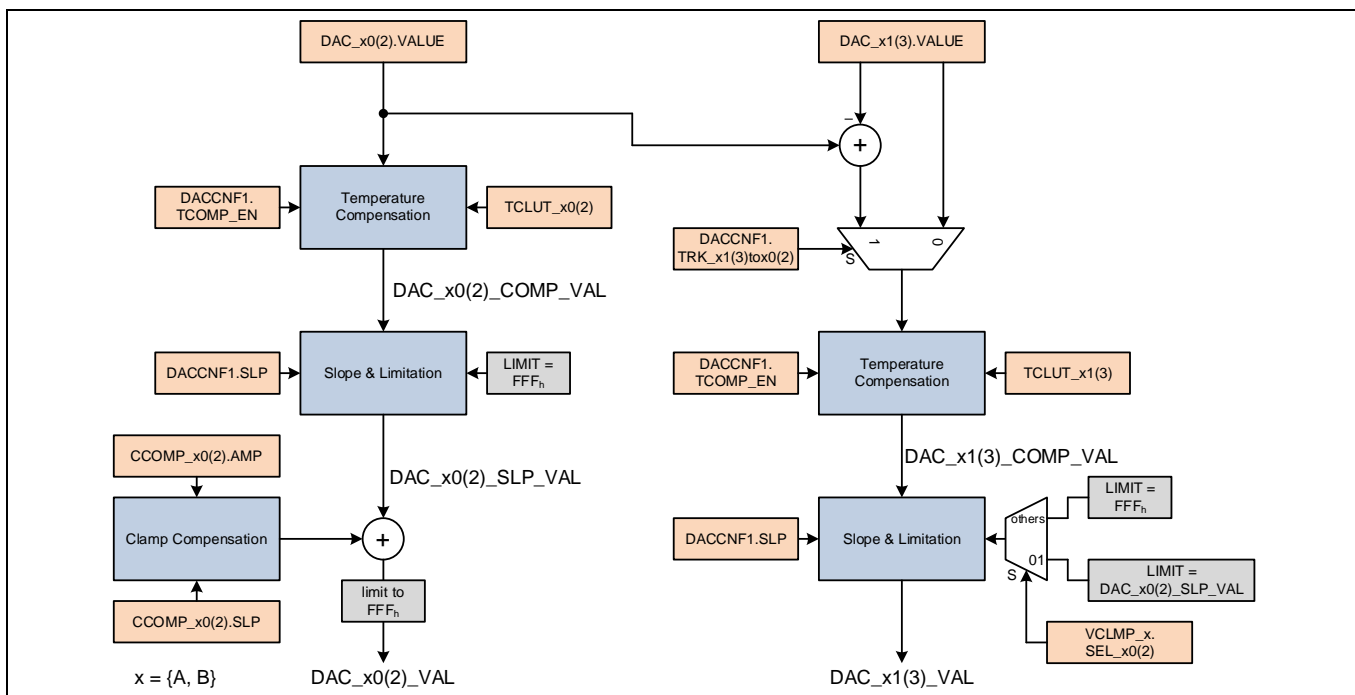

Figure 6 DAC value computation
The even DAC_x0(2) values are directly controlled by the DAC_x0.VALUE and DAC_x2.VALUE register entries and can be optionally modified by several adjustment blocks before being applied to the DAC input (as shown on Figure 6): Temperature Compensation, Slope and Limitation, and Clamp Compensation that can temporarily change the output as well.